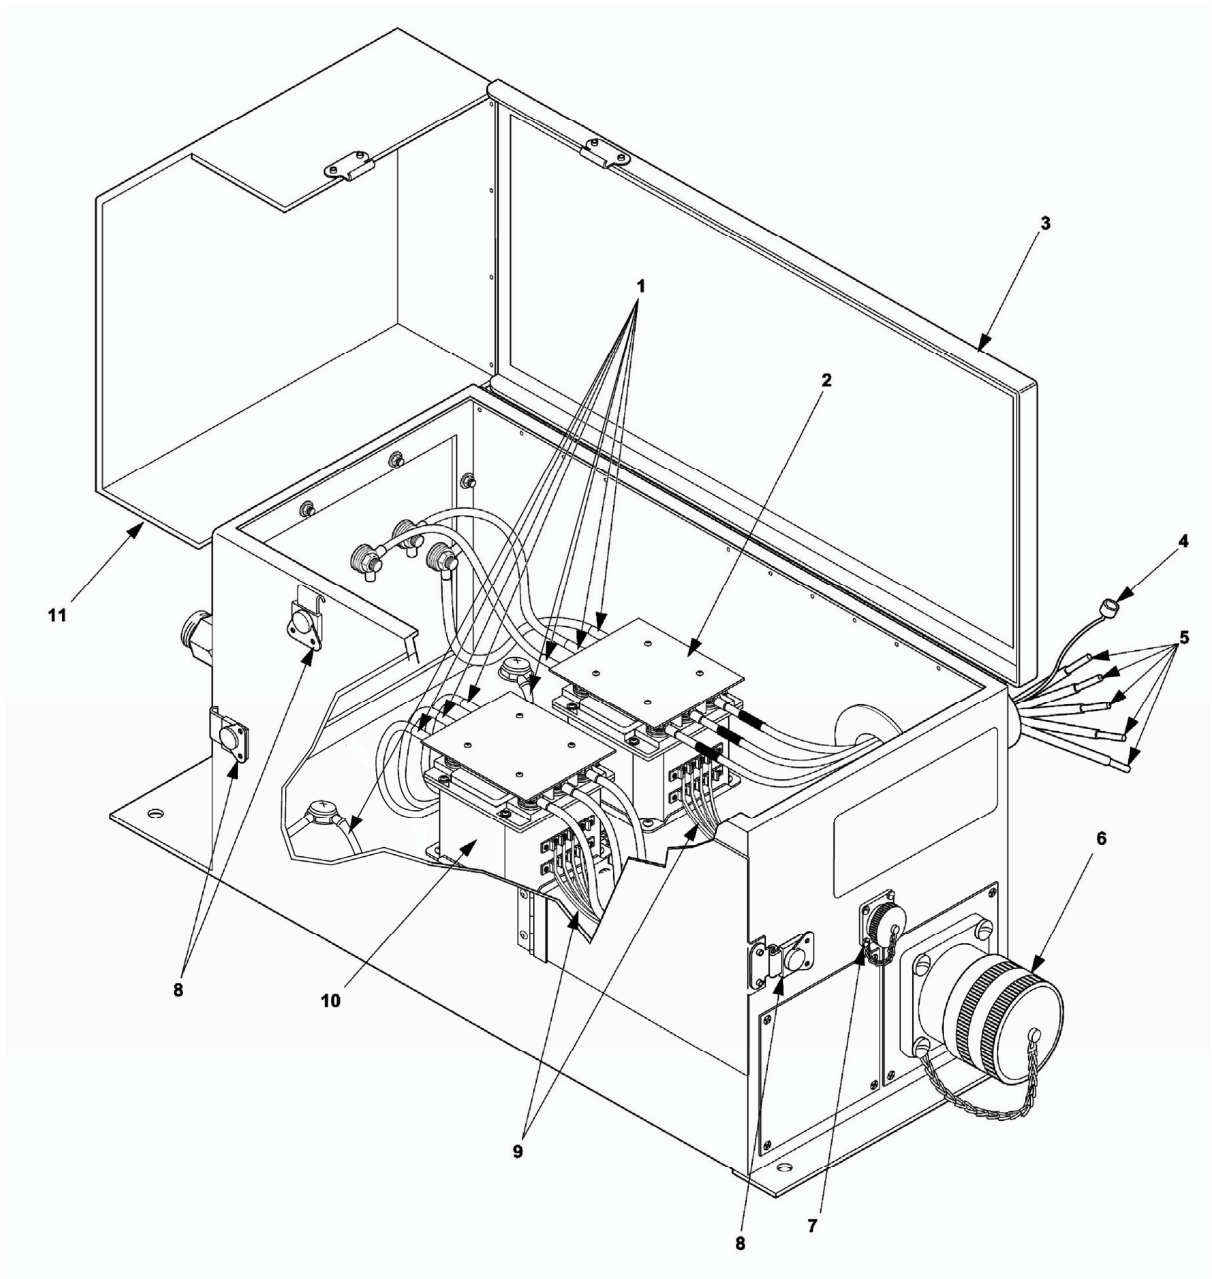

Figure 5-11.1. Switch Box Assembly Test (B&C Models).
1. Release clamping catches (8, figure 5-11.1), on switch box cover (3) and load terminal cover (11). Lift switch box cover (3).
- a. Refer to table 5-9. and check continuity of wiring harness W7 (9, figure 5-11.1).
- a. Using a multimeter, test contactor K1 (10, Figure 5-11.1) as follows:
- (6) Measure resistance across terminals X and Y of contactor.
- (7) Turn off power source and disconnect lines connected in step a(2).
- b. Repeat steps a (1) through (7) for contactor K2 (2, figure 5-11.1).
- b. Close the switch box cover (3, figure 5-11.1) and secure clamping catches (8).